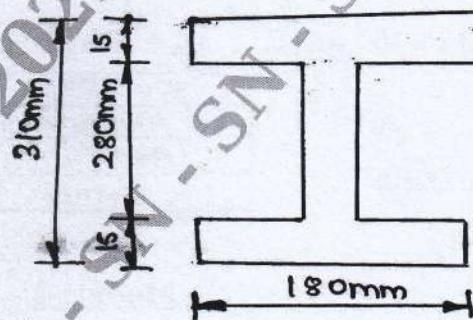

Fig. Q6(b)
b. An I – section Beam shown in the Fig. Q6(b), is subjected to a Bending Moment of 120kNm and a shear force of 60kN. Sketch the Bending and shear stress distribution along the depth of the section. (08 Marks)